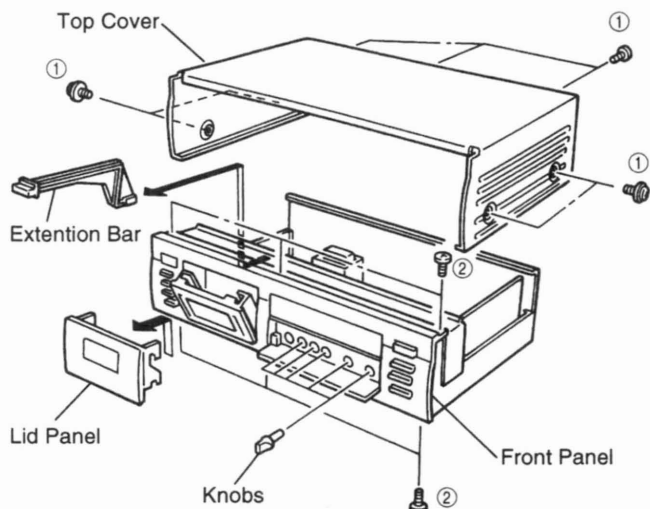

Fig. 1
Remove 7 screws (①) in Fig. 1.
- Remove the Extension Bar in Fig. 1.
- Remove 6 screws (②) in Fig. 1.